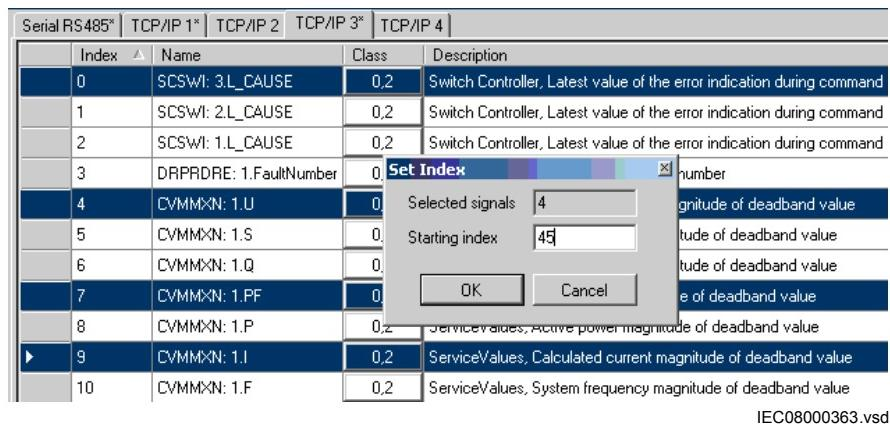

Figure 80: CMT: Set Index menu
2. The selection window shows the number of signals selected, see Figure 80.